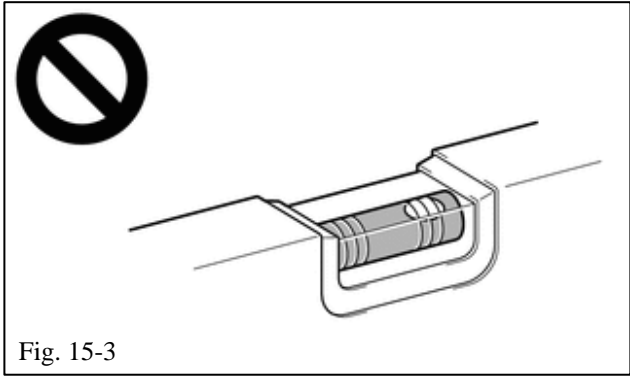
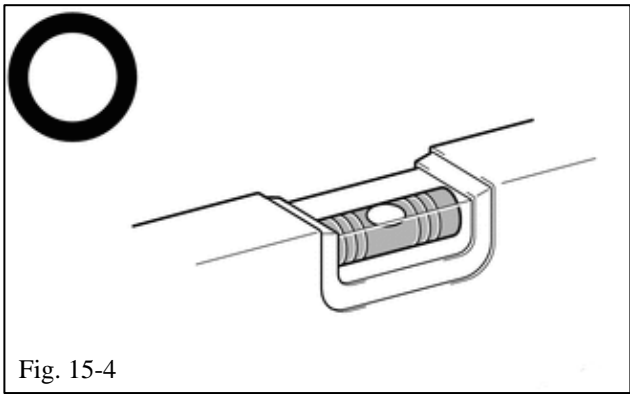

Fig. 15-3
Fig. 15-4
- (c) Place the level on each levelness check point and check that the air bubble of the level is centered (Fig. 15-3 and Fig. 15-4).